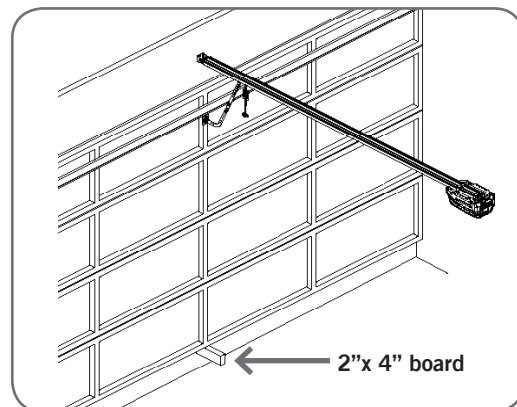

Fig.24
2. Place an object approximately 1-1/2"(38mm) high (or a 2"x 4" board laid flat) on the floor under center of garage door opening (Fig.24).